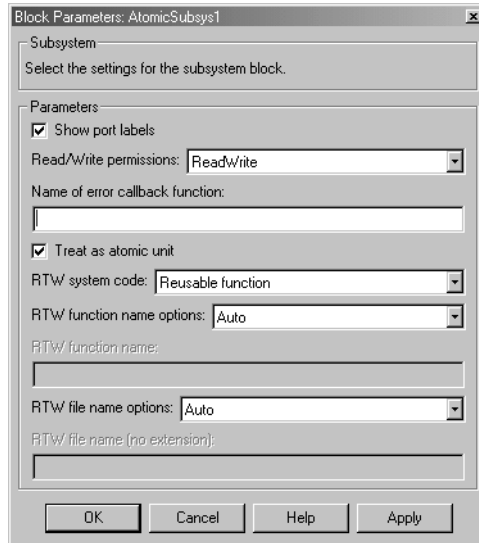

Figure 4-5: Subsystem Reusable Function Code Generation Option
- 2 If the subsystem is virtual, select **Treat as atomic unit** as shown in Figure 4-5. This makes the subsystem atomic, and the **RTW system code** pop-up menu becomes enabled.
- 3 Select **Resusable** function from the **RTW system code** menu as shown in Figure 4-5.